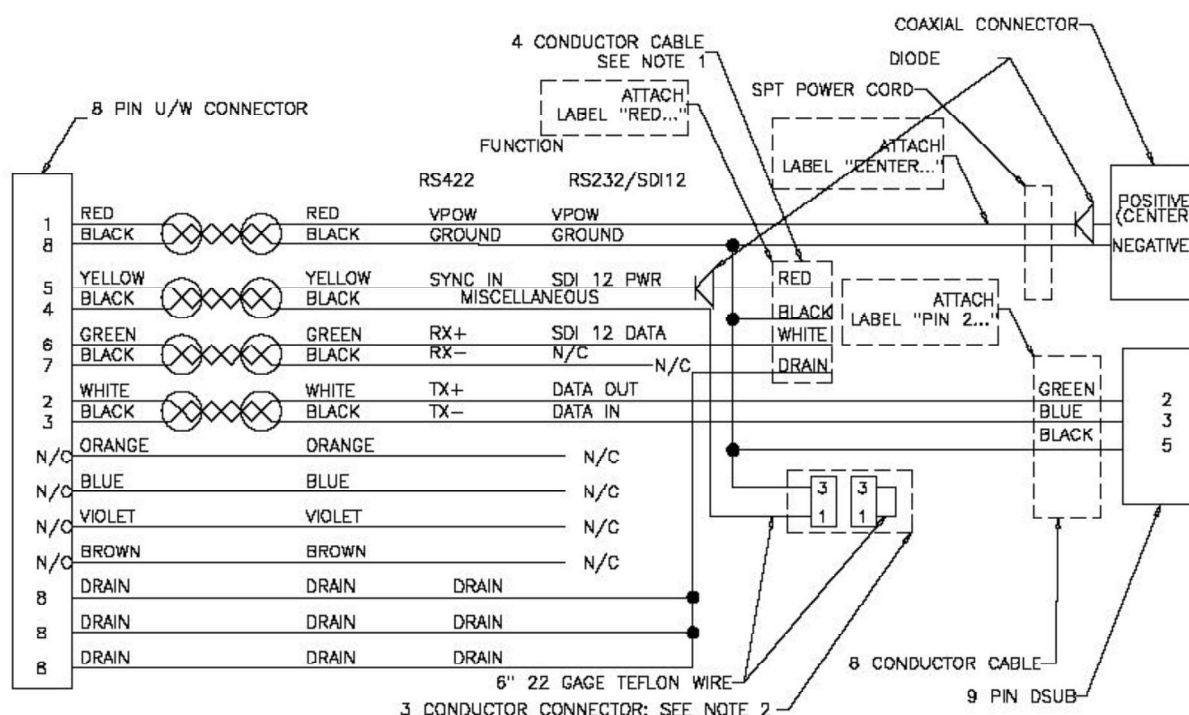

Figure 7-6. 1500 & 3000-kHz Original Canister Housing SL Power and Communications Cable wiring diagram (RS-232/SDI-12/Flow Display)
- Figure 7-6 shows the wiring of the 1500 and 3000-kHz SL power and communications cable for systems that support the Argonaut Flow Display (Appendix H) in addition to RS232 and SDI-12. These systems were built after April 2005.
Cable/connector description for 1500 and 3000-kHz original canister housing SL systems using RS232 / SDI-12 / Flow Display. Refer to Figure 7-6.